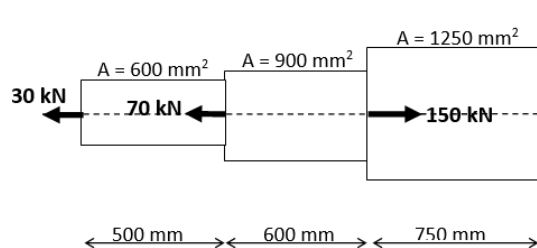

Fig.1
b) Determine the elongation of the stepped steel bar subjected to axial forces as shown in Fig.1. Also find the normal stress in each segment of the stepped bar. [8 M]